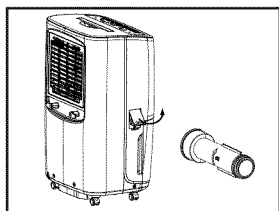

fig. 1
- Open the drain cover at the side of the unit and take out drainage joint from the top of the styrofoam packaging. (fig.1)